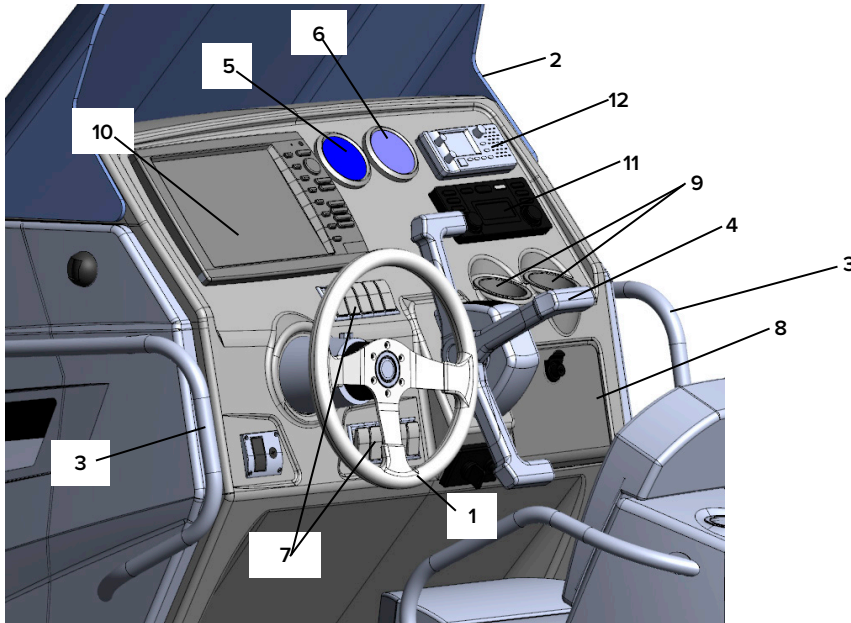

Fig. 50. Steering console components (see the list on the next page).
*Steering console components (see fig. 50 on the previous page):*